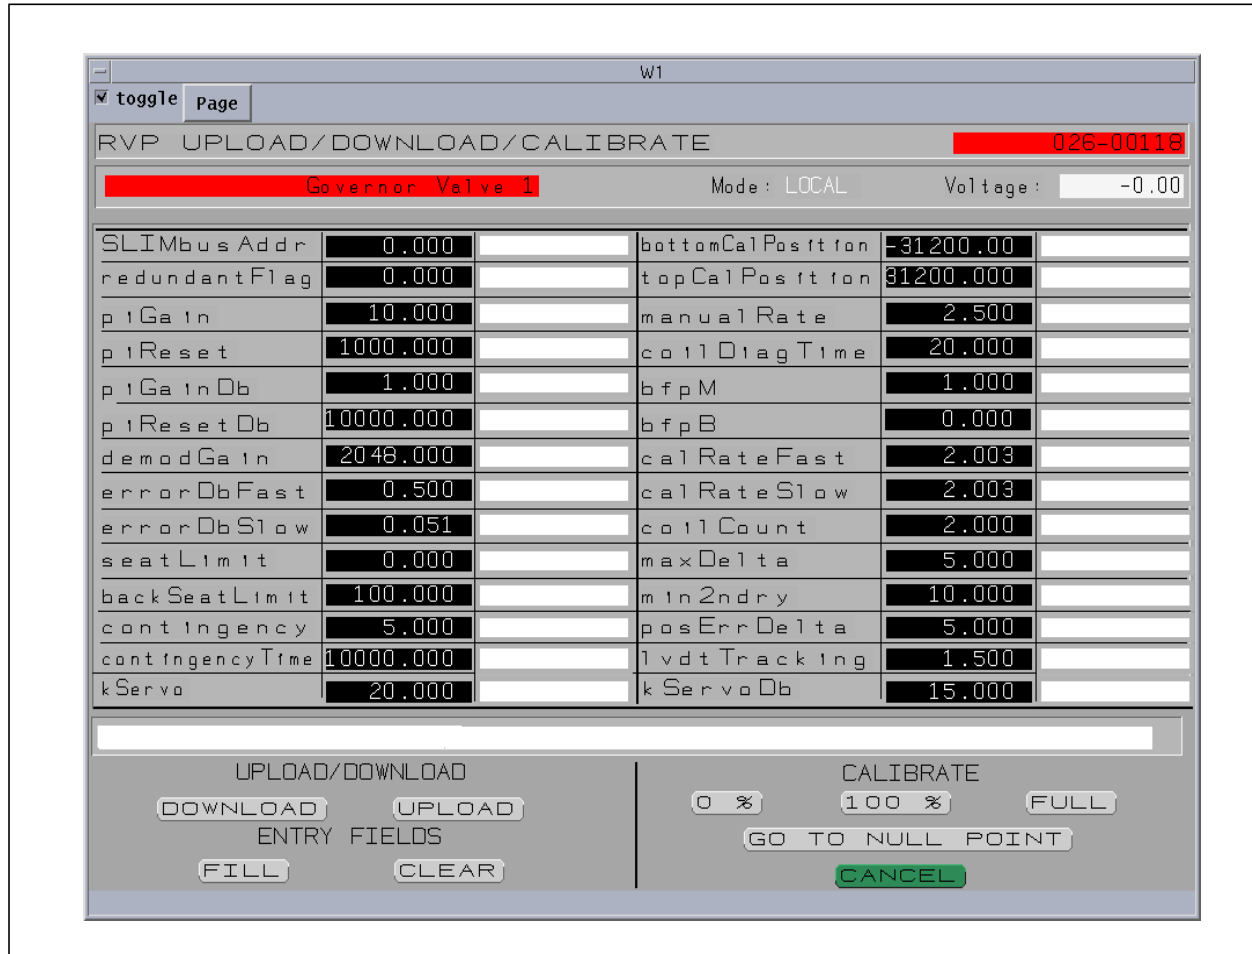

Figure 25-3. VP Upload/Download/Calibrate Graphic
2. Click on the desired valve symbol to display the VP calibration graphic (see Figure 25-3) and show the constants associated with that particular VP and valve. This graphic is provided with the project graphics. Customizing of the turbine valve graphic and VP calibration graphic is not in the scope of this document.